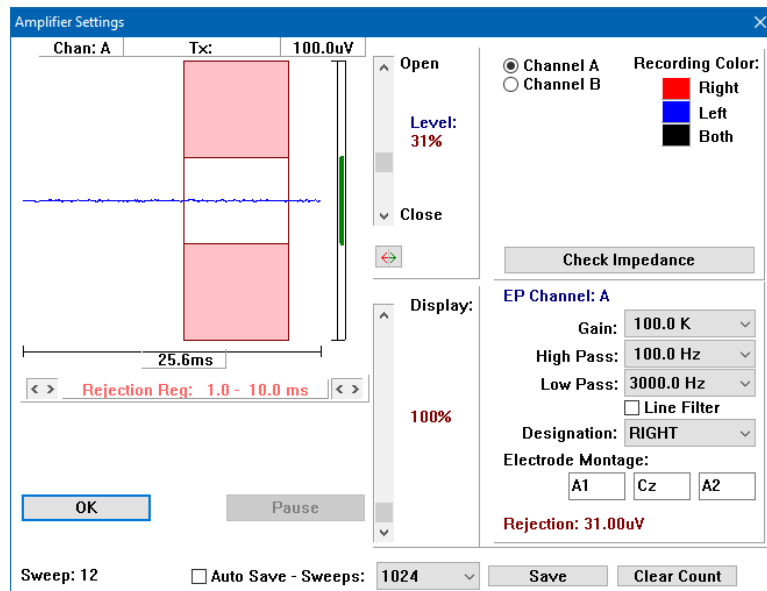

Figure 17 - Amplifier window showing the rejection area.
3. The rejection start and end time can also be adjusted by clicking on their respective adjustment buttons at the bottom of the live EEG graphic. This setting rarely needs to be modified since the applicable settings will be automatically loaded when changing acquisition modalities. In general, the rejection region should be set to cover the post stimulus region, accounting for any stimulus ringing that may occur, while trying to cover the entire region of the expected repeatable response. Figure 17 shows the rejection region spanning from 1 ms to 10 ms, the most common setting for ABR.